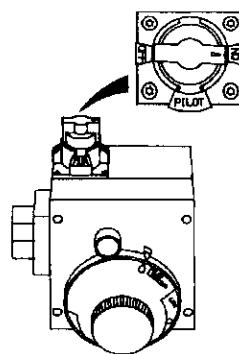

Figure 8
11. At arms length away, turn gas control knob counter-clockwise () to the full "ON" position. **Warning do not use gas control knob to regulate gas flow.** (Figure 8, page 19)